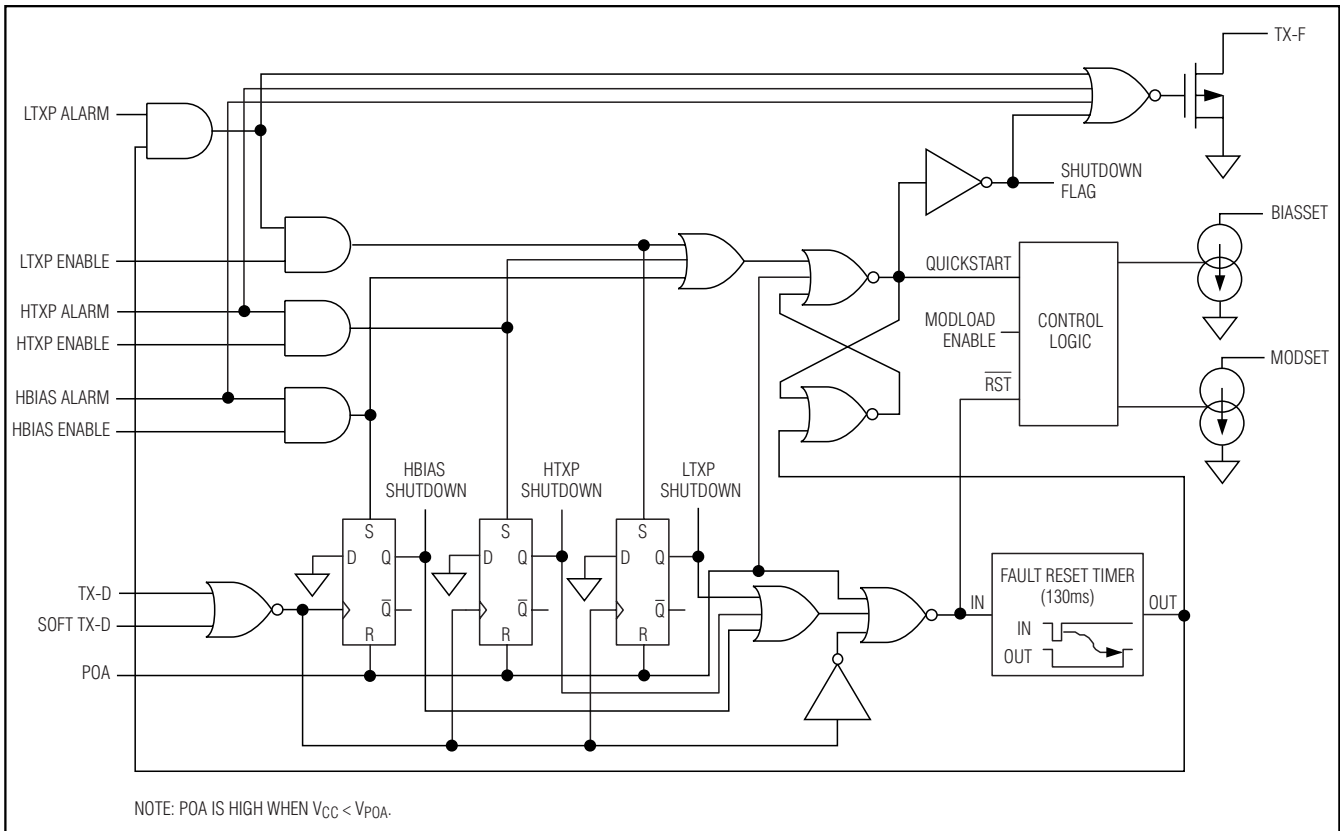

Figure 13. Quick Trip Logic Diagram
The DS1861 has a VCC monitor plus three programmable quick-trip (QT) fault monitors (Figure 13) that can trigger the TX-F output. The QTs monitor for high transmit power (HTXP), low transmit power (LTXP), and for high bias current (HBIAS). All the QTs feature programmable trip levels, an alarm disable, and a shutdown enable to determine if the enabled QT alarm shuts off the IBIASSET and LMODSET outputs.
The high and low transmit power quick-trip thresholds are each programmed by 3 bits that select one of seven different levels as a function of the expected I_{BMD} current. Each QT monitor can be disabled by programming all three bits to zero. Disabling a QT by programming its control bits to zero prevents the QT alarm flags from ever being set, which consequently prevents that monitor from asserting the TX-F output, latching the device into a shutdown condition, or setting the alarm bits in the Status register. The HTXP and LTXP enable bits can be used to prevent the transmit power level QTs from causing shutdown while allowing the TX-F output to be set to flag the system of a transmit power fault condition. Figure 13 shows the shutdown logic. Tables 1 and 2 show the QT thresholds as a function of I_{BMD} current-set point.